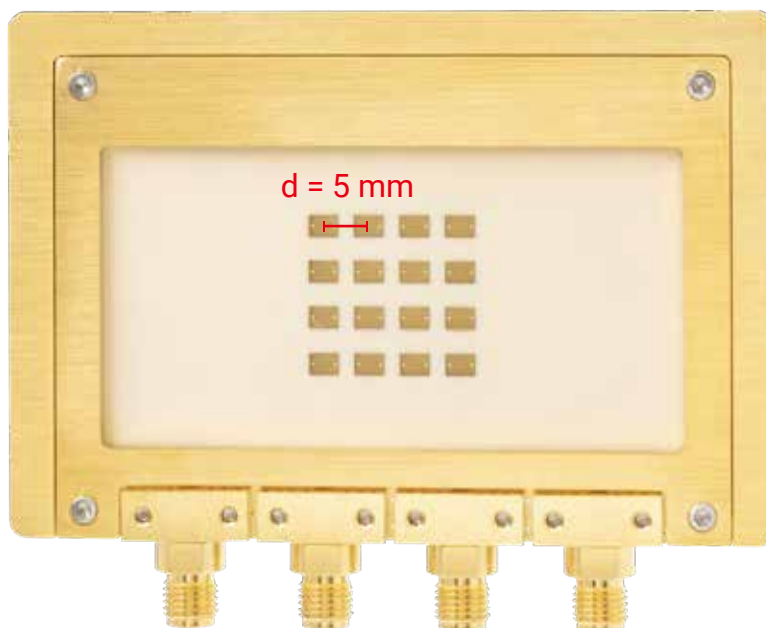

Figure 3. Array Antenna
- Measure the distance ( $d$ ) between the radiation elements of the array antenna as shown in Figure 3.